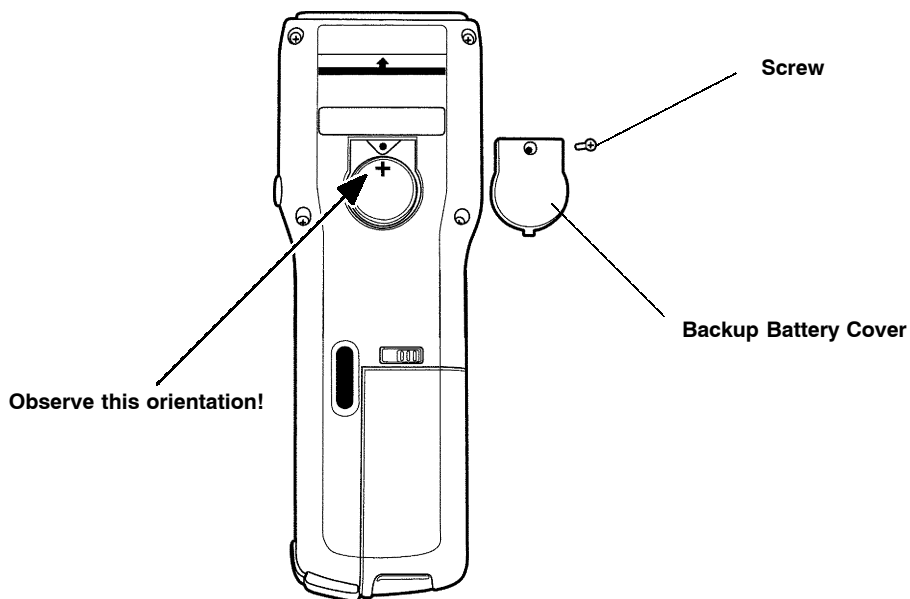

Figure 1-2
2. Insert a new lithium battery into the holder. Be sure to align the “+” symbol on the lithium battery with the screw hole in the M90 (see Figure 1-2).